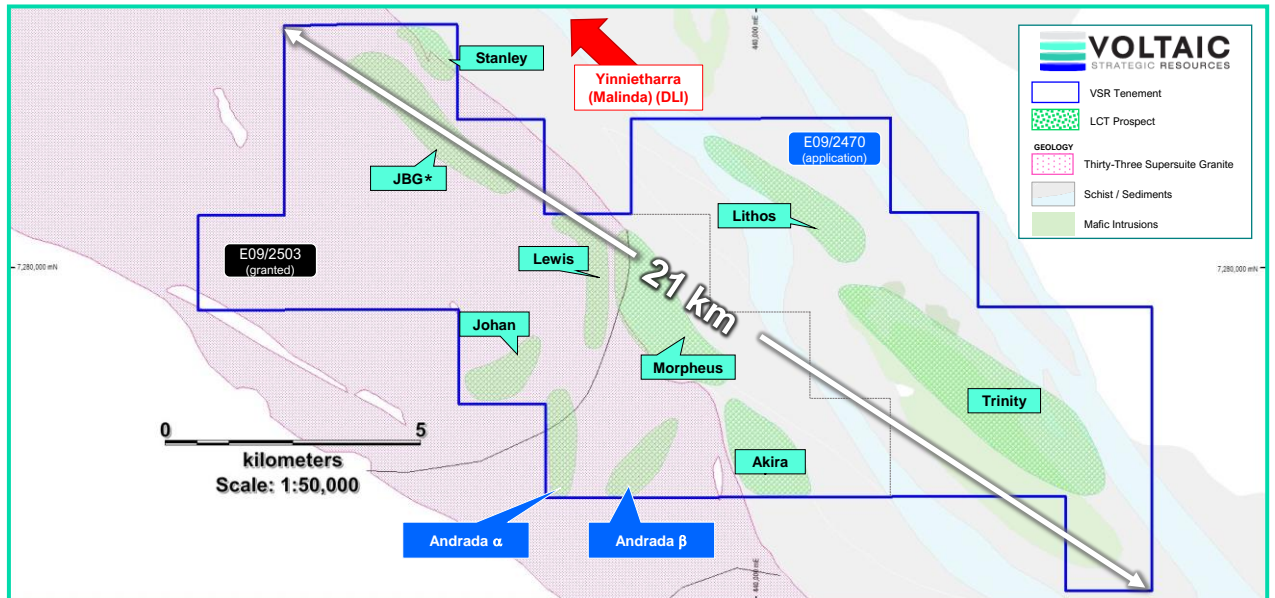

Figure 6. Ti Tree (South) regional prospects (10) (Drill testing underway at Andrada)
- Planning is underway for **systematic and extensive follow-up drill programs** across northern and southern tenements over 18 priority target areas (see *Fig 6 & 7*).